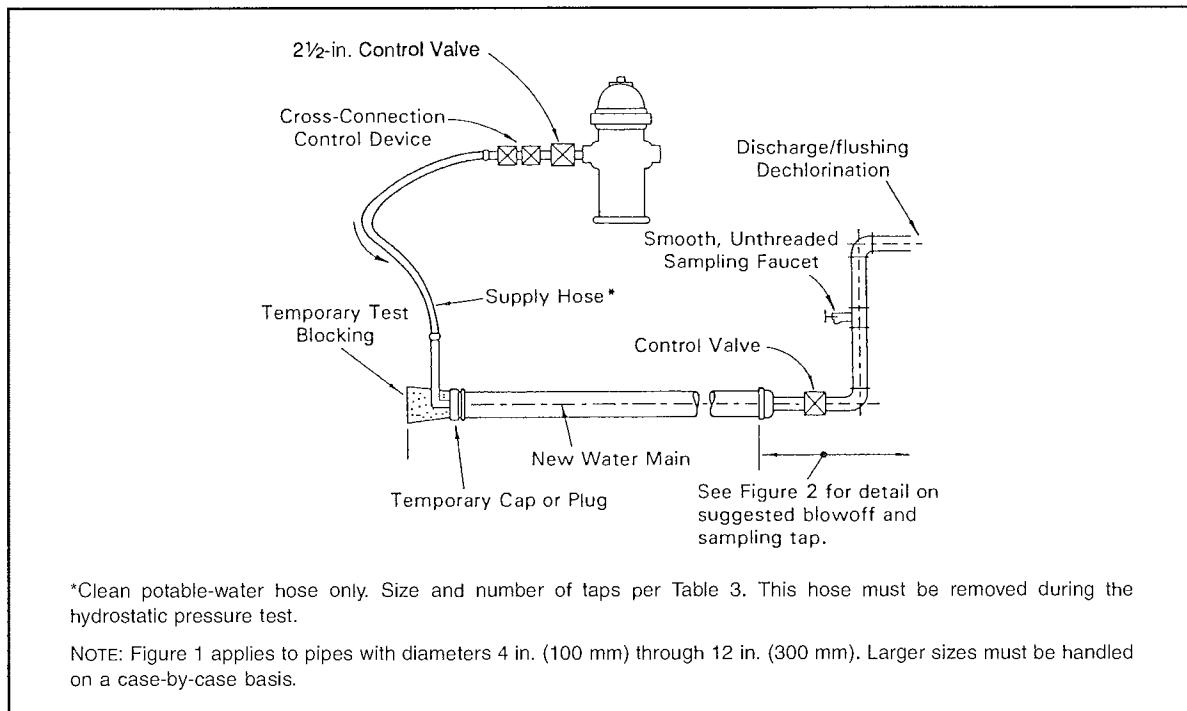

Figure 1 Suggested temporary flushing/testing connection
4.3.9 *Backflow protection (optional).*^{*} As an optional procedure (if required by the purchaser), the new water main shall be kept isolated from the active distribution system using a physical separation (see Figure 1) until satisfactory bacteriological testing has been completed and the disinfectant water flushed out.
4.4.2.3 Filling and contact. When installation has been completed, the main shall be filled with water at a rate to ensure that the water within the main will flow at a velocity no greater than 1 ft/sec (0.3 m/sec). Precautions shall be taken to ensure that air pockets are eliminated. This water shall remain in the pipe for at least 24 hr. If the water temperature is less than 41°F (5°C), the water shall remain in the pipe for at least 48 hr. As an optional procedure, if required by the purchaser, water used to fill the new main shall be supplied through a temporary connection that shall include an appropriate cross-connection control device, consistent with the degree of hazard, for backflow protection of the active distribution system (see Figure 1). A detectable free
3. As an optional procedure, if required by the purchaser, water used to fill the new main during the application of chlorine shall be supplied through a temporary connection. This temporary connection shall be installed with an appropriate cross-connection control device, consistent with the degree of hazard for backflow protection of the active distribution system (see Figure 1). Chlorine application shall not cease until the entire main is filled with heavily chlorinated water. The chlorinated water shall be retained in the main for at least 24 hr, during which time valves and hydrants in the treated section shall be operated to ensure disinfection of the appurtenances. At the end of this 24-hr period, the treated water in all portions of the main shall have a residual of not less than 10 mg/L of free chlorine.